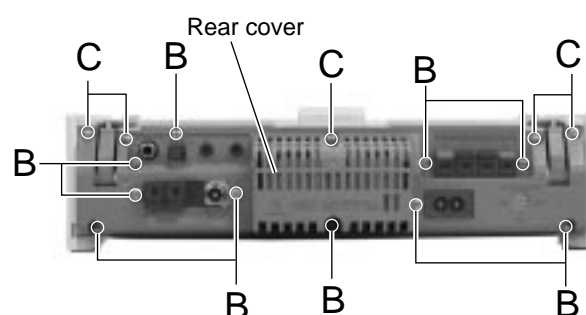

Fig.2
■ Removing the rear cover (See Fig.2)